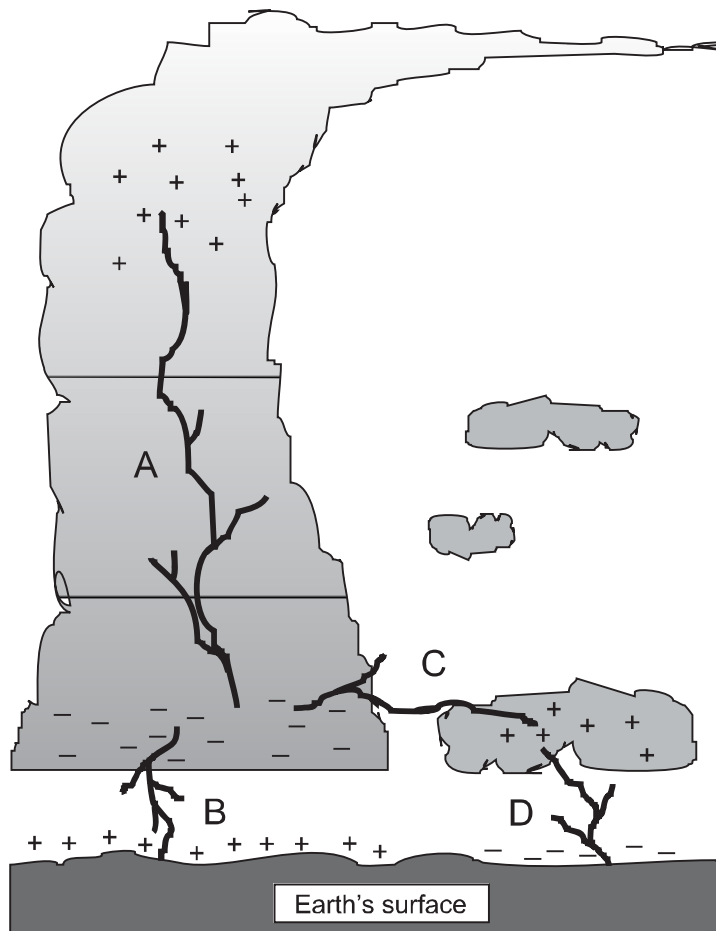

Fig. 11-9. Four types of lightning stroke: intracloud (A), cloud-to-ground (B), intercloud (C), and ground-to-cloud (D).
- Lightning that occurs within a single cloud (*intracloud*), shown at A in Fig. 11-9.
- Lightning in which the major current pulse flows from a cloud to the earth’s surface (*cloud-to-ground*), shown at B in Fig. 11-9.
- Lightning that occurs between two clouds (*intercloud*), shown at C in Fig. 11-9.
- Lightning in which the major current pulse flows from the earth’s surface to a cloud (*ground-to-cloud*), shown at D in Fig. 11-9.